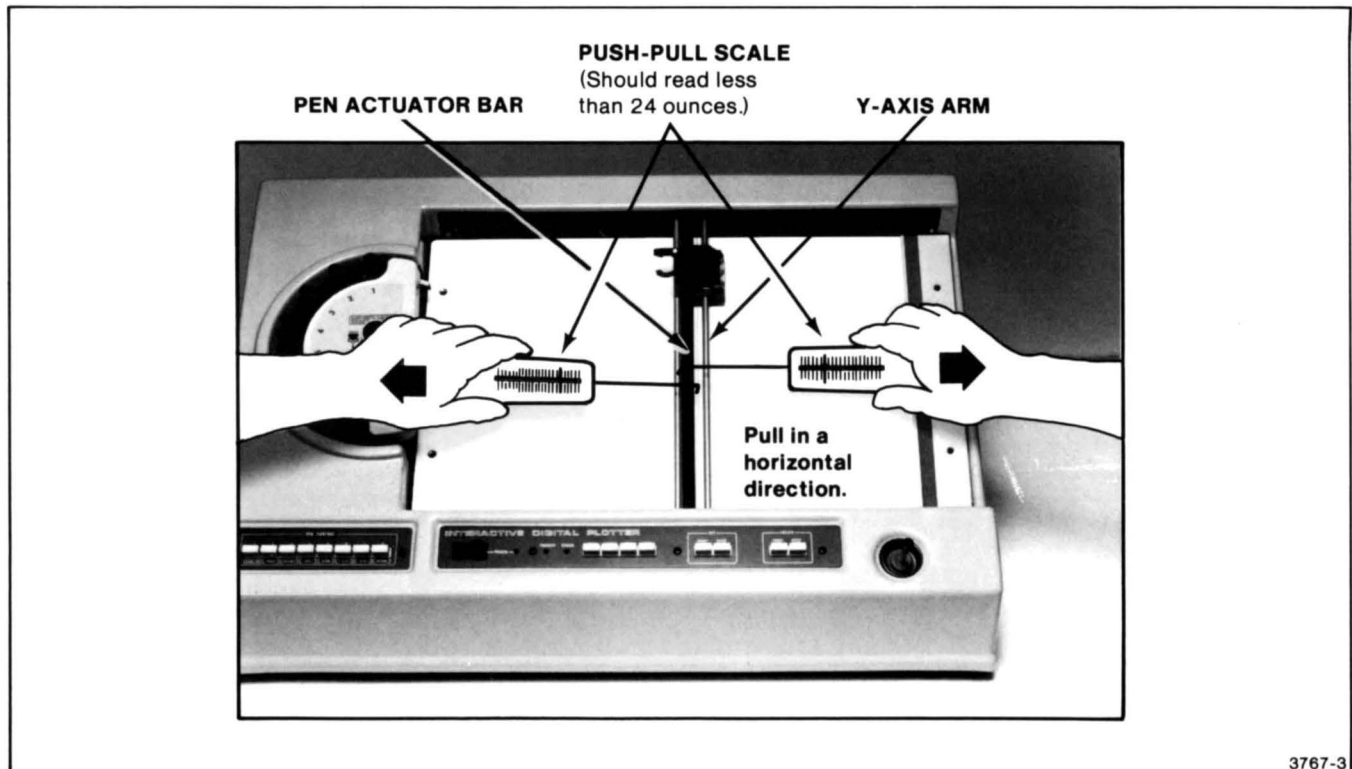

Figure J-4. Y-Axis Arm Pull Test.
1. **Hook** the push-pull scale (or fish weighing scale) over the Pen Actuator Bar, as shown in Figure J-4. Use the push-pull scale to pull the Y-axis arm back and forth across the platen. If the force required to move the Y-axis arm is greater than 24 ounces (1.5 lbs or 681 grams), Option 31 may not work. To lessen that force, try replacing the pen drive cables, pulleys, X-axis pen drive motor, or linear bearing, or lubricating the X-axis shafts.